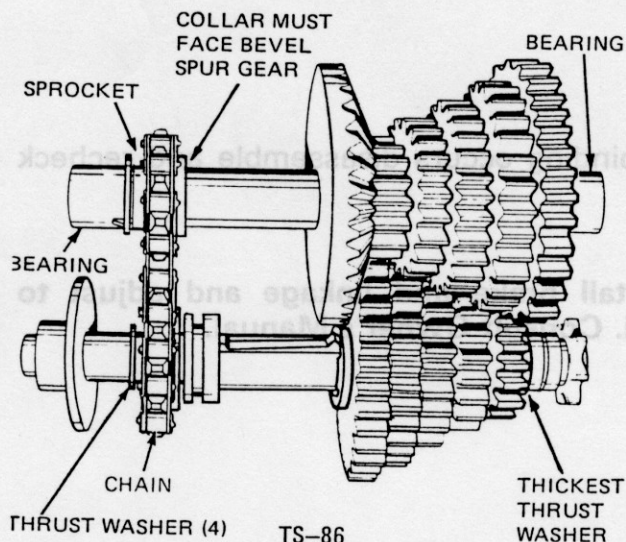

Figure 98
7. Install thrust washers on output shaft, (Figure 98) (the thickest thrust washer must be positioned on the shifting gear end of the output shaft).
8. Install bronze bearing (Figure 98) on each end of output shaft.
9. Install drive sprocket, snap ring and brake disc, (Figure 98) on output shaft.